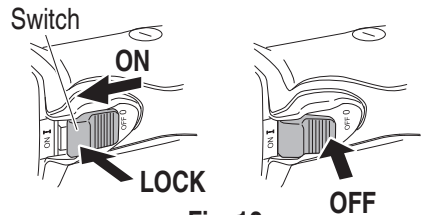

Fig. 12
2. Turn the grinder "on" (Fig. 12)
Turn the grinder "off" (Fig. 12)